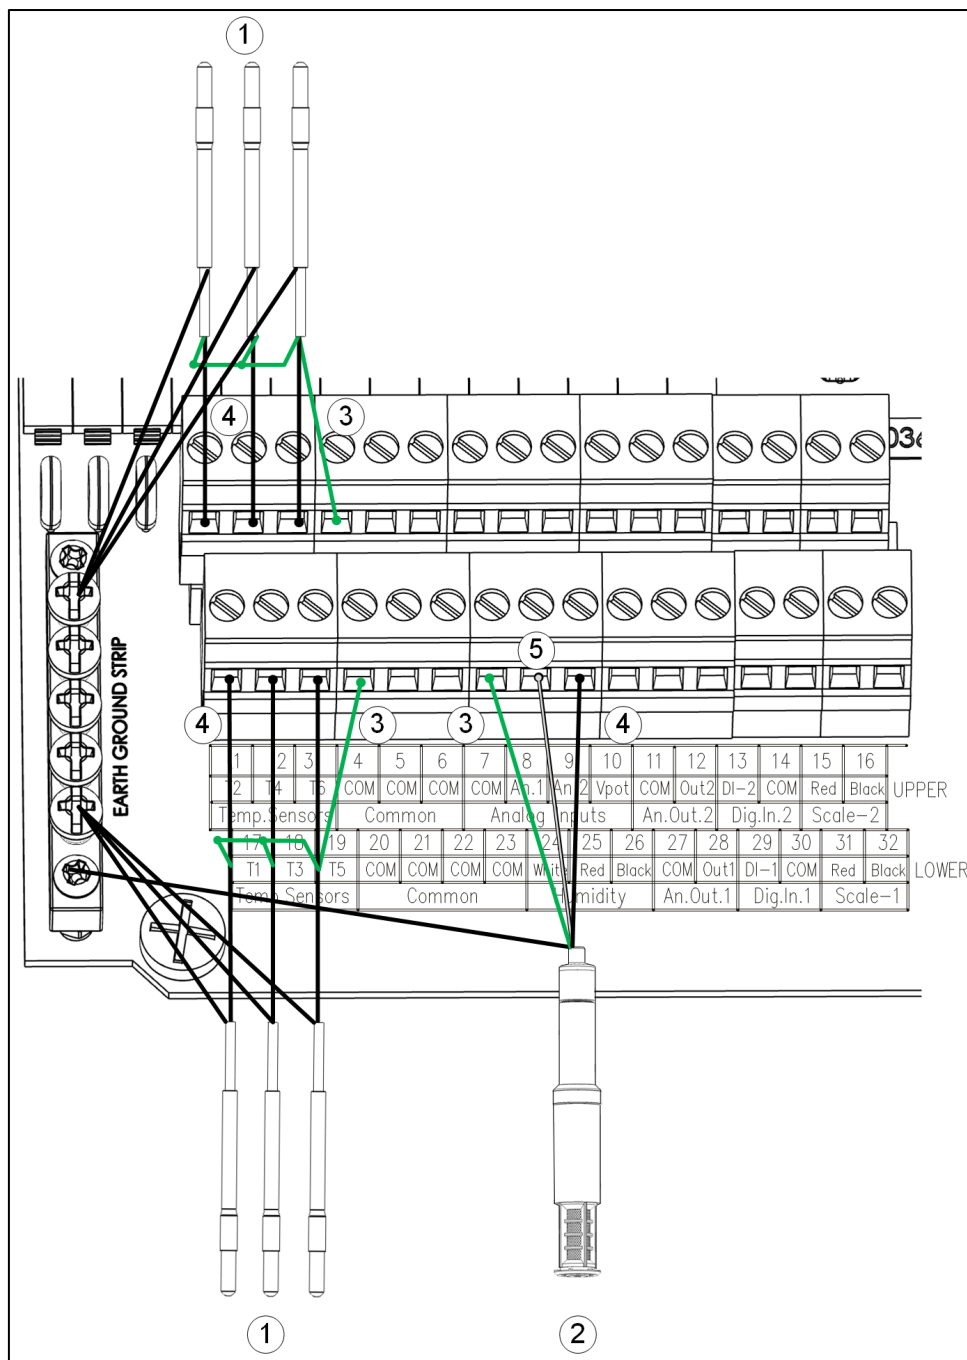

Figure 10: Terminal Wiring: Temperature and Humidity Sensors
**CAUTION** Connect each cable's shielding wire to the grounding strip. Figure 10 is an example only.